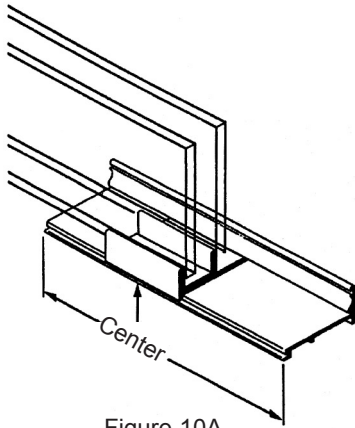

Figure 10A
- C. Slide both Door Panels (#5 and #6) to one side. Peel the paper backing off the two-way tape on the bottom of the Bottom Track Guide (#10). Without letting the adhesive tape touch the Bottom Track/Curb (#2) OR accidentally pressing down or locking the Bottom Track Guide (#10) into place, carefully insert the front edge of the Bottom Track Guide (#10) into the groove in the Bottom Track/Curb (#2) and slide the Bottom Track Guide (#10) under the two Door Panels (#5 and #6) as shown in Figure 10A. Center the Bottom Track Guide (#10) on the pencil mark you made (See Figure 10A).